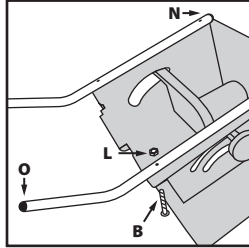

Fig. 2
- Attach the two components to the machines main body using fixings **B** and **L** (**Fig. 2**).